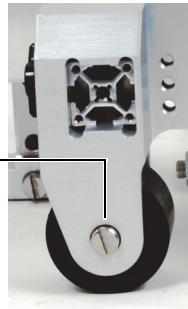

Figure 2-32 Wheel mounted on the frame
1. Using a flat-headed screwdriver, remove the screw that holds the wheel (Figure 2-32 on page 61).